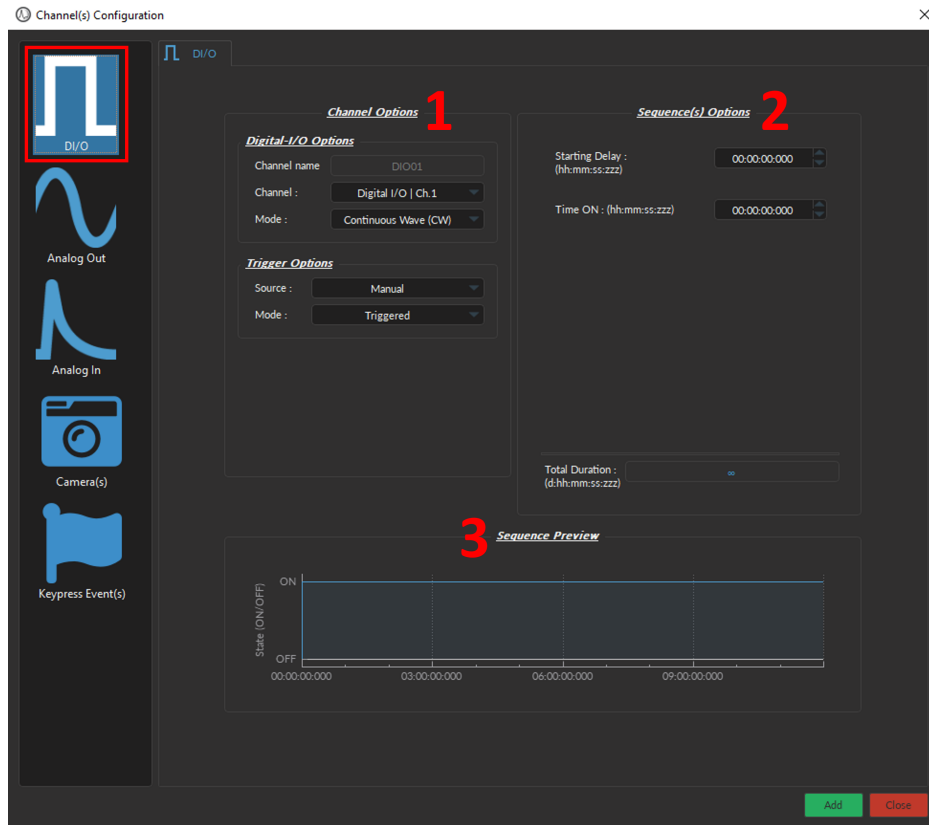

Figure 5.13: *Channel(s) Configuration, Digital I/O*
The *Channel(s) Configuration* window for the **Digital I/O** Channel is divided into three sections (Fig. 5.13): (1) the **Channel Options** (Section 5.4.3.1), (2) the **Sequence Options** & (3) **Preview** (both treated in Section 5.4.3.2).